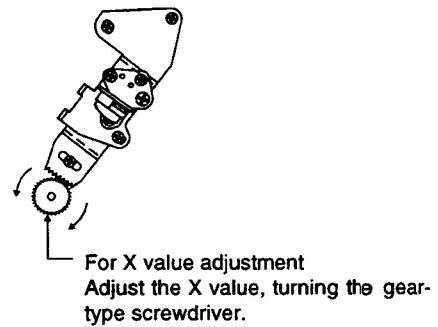

Figure 4-33.
Playback the alignment tape, and shortcircuit TP802. As a result the auto-tracking is automatically cancelled, so that the X value adjustment mode is set. Move the A/C head with the X value adjustment gear driver (JiGDRIVER-6) by the method shown in Figure 4-33, and adjust the A/C head so as to get the maximum envelope waveform. (Note: When the A/C head is adjusted, adjust so that the maximum envelop waveform is obtained nearest the position of initial setting made in Page 18.)
- ① Tentatively fix A/C head arm screws ① and ② by the method described in Page 18 "Replacement 3".
- ② Playback the alignment tape (VROCPSP), and shortcircuit TP802. As a result the auto-tracking is automatically cancelled, so that the X value adjustment mode is set.
- ③ Move the A/C head with the X value adjustment gear driver by the method shown in Figure 4-33, and adjust the A/C head so as to get the maximum envelope waveform. (Note: At this time adjust so as to get the maximum envelope waveform nearest the A/C head position which has been set in case of X value rough adjustment as stated in Page 21, 3-②.)
- ④ Tighten finally the screws ① and ②. Be sure to tighten at first the screw ① and then the screw ②.